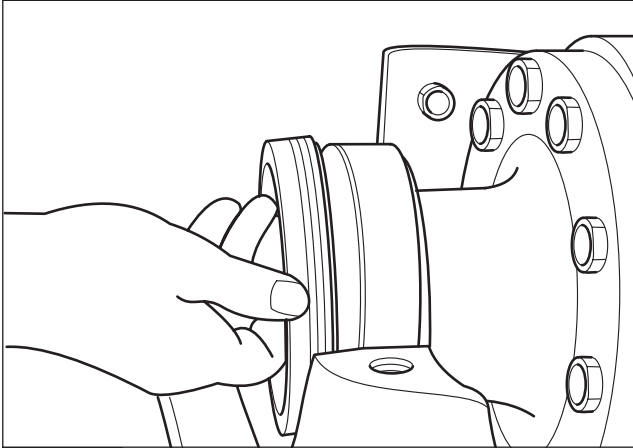

Fig. 2.81
4. Locate the bearing adjusting rings in their respective threads. (Fig. 2.81)